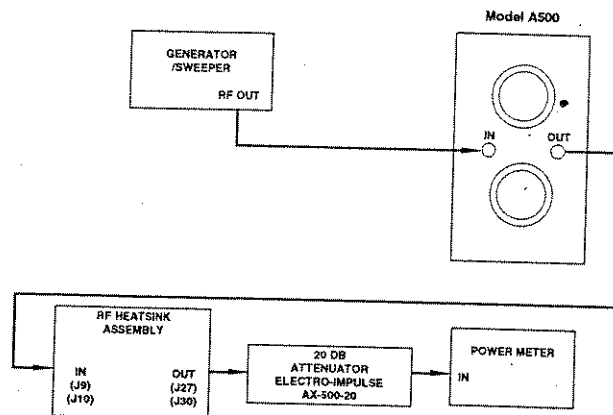

Figure 6-1. RF Heatsink Assembly Test Set-Up
- a. Set-up the test equipment shown in Figure 6-1 with the 325LA amplifier connected to the splitter input J9 or J10 (right or left hand RF heatsink assembly).